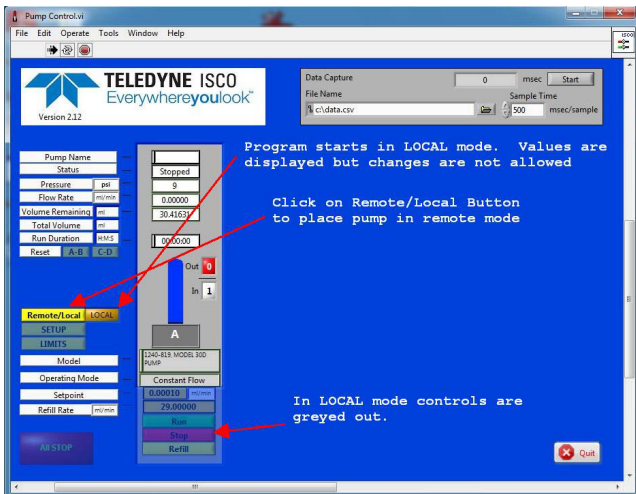

Figure 14: Main screen in local mode
9. When all the values match press the FINISHED key. The program then displays all pumps connected and is in local mode (Figure 14). In local mode the values are constantly updated but no changes can be made from the computer.